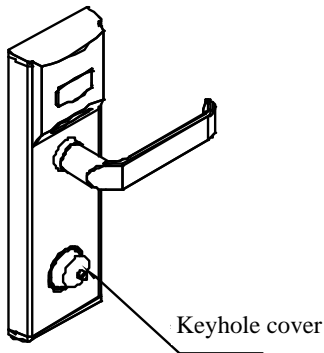

Figure 1
- 2) put the key in and clockwise rotation 90°, then you can open the door. Counterclockwise 90°, you can double lock the door. Show as Figure1.